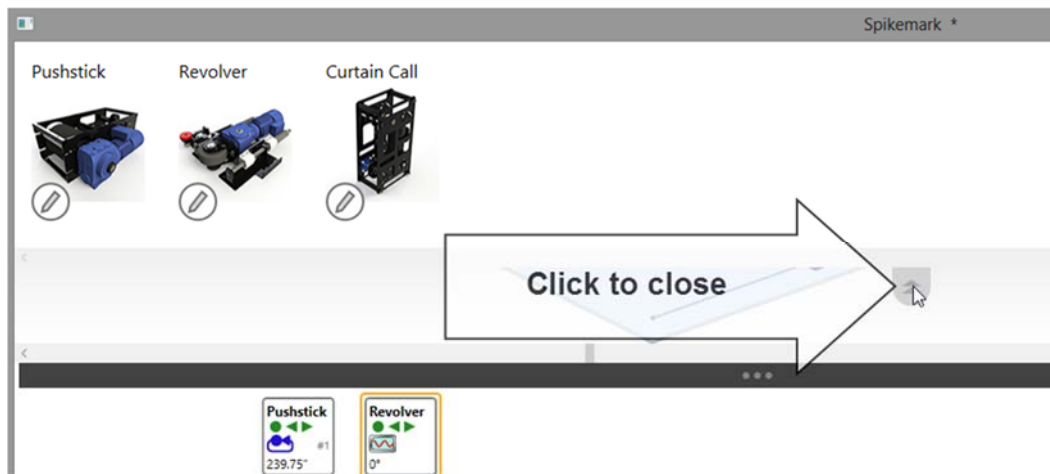

Figure 33
5. We are finished with the **Machine Library** for now, so click the **Close Tab** to roll it up and out of the way (Figure 33).